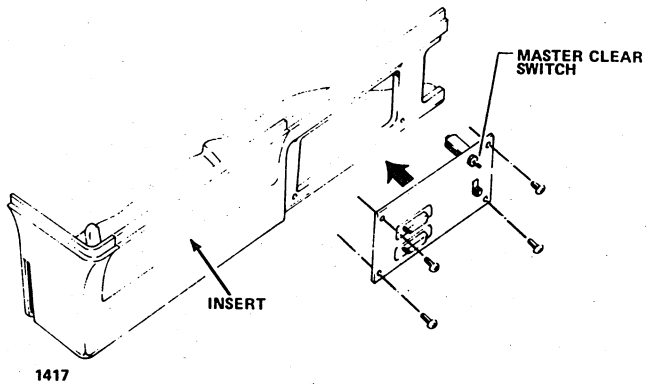

Figure 6-9. MASTER CLEAR Switch
1. Unscrew the four mounting screws holding the data entry panel to the chassis (figure 6-9).
6. Attach the panel to the chassis using the four mounting screws (figure 6-9).
3. Lift out the cabinet-back insert from the cabinet base (figure 6-9).
2. Remove the two screws holding the cabinet hood to the chassis and remove the cabinet hood. Also remove the cabinet back insert (figure 6-9) from the cabinet base.